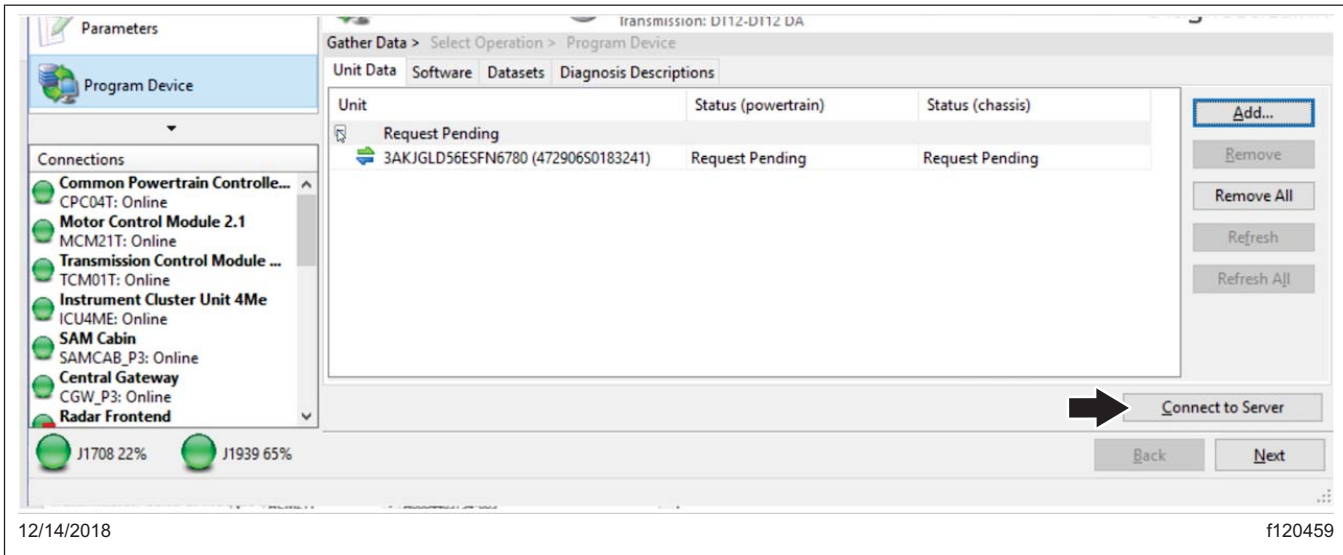

Fig. 8, Downloading Updated Unit Data
- There should be a request pending status for the VIN. Click "connect to server" to download the updated unit data. See Fig. 8. The server will provide any new software available on the server as well as updated parameter sets for the new software, adjusted for the parameter set that was just uploaded from the vehicle.